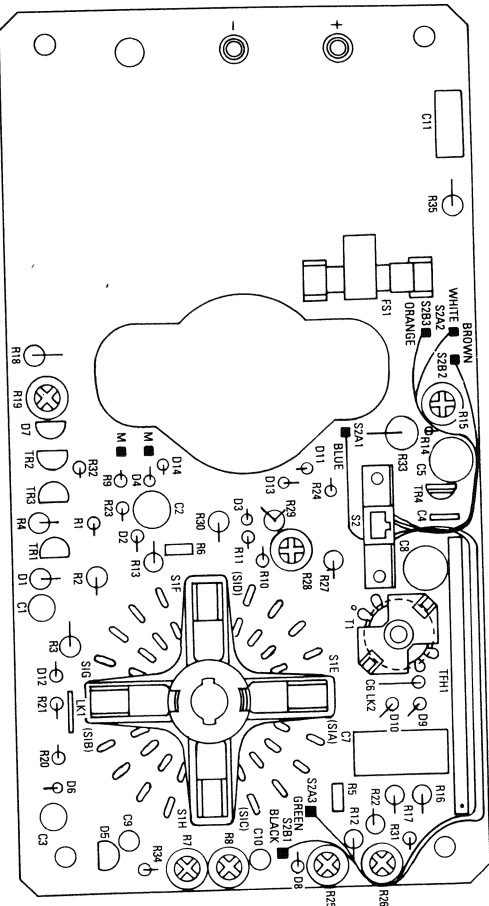

Fig. 2: The printed circuit board
Refer to the circuit diagram and to fig. 2 to find the positions of the adjustment potentiometers.
- Notes referring to fig. 2, page 20: —